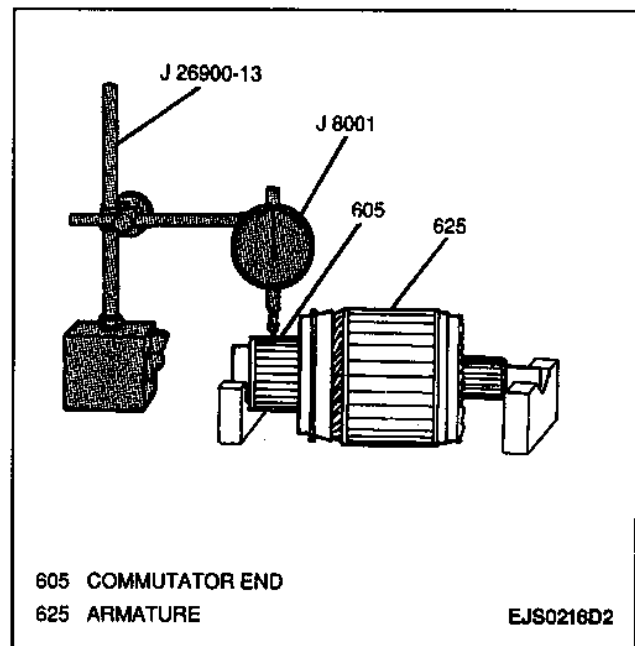

Figure 21—Measuring Commutator Run-Out
- Place the armature onto a pair of "V-blocks." Using a J 8001 with a J 26900-13, measure commutator run-out (Figure 21). Standard commutator run-out is 0.05 mm (0.002-inch) or less. If run-out exceeds 0.40 mm (0.016-inch), replace the armature.